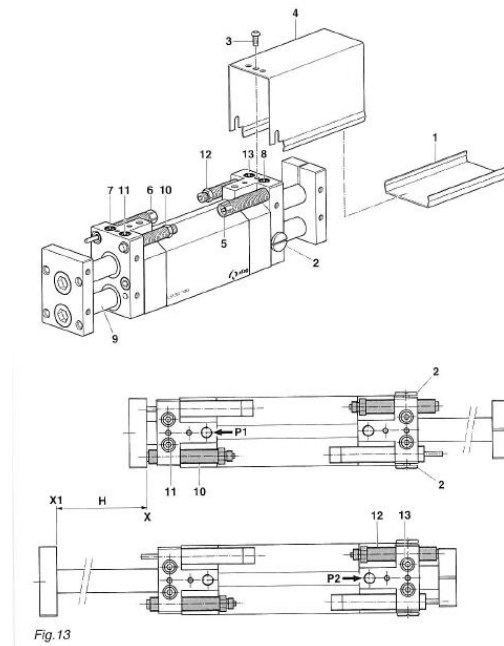

Fig. 19 Adjustment of stop screws AS 12/60
1. Pull out the protective unit (Fig. 19, 1).
2. Loosen screws (Fig. 19, 2) and remove screw (Fig.19, 3).
3. Pull the hand guard (Fig. 19, 4) upwards.
4. Loosen the locking screw (Fig. 19, 7, 8) and unscrew the shock absorber (Fig. 19, 5, 6) approx. 5 turns anticlockwise.
- The slide (Fig. 19, 9) moves onto the stop screw (Fig. 19, 10).
6. Loosen the locking screw (Fig. 19, 11).
7. Determine the rear position (X) of the stroke (H) by adjusting the stop screw (Fig. 19, 10).
8. Secure position with locking screw (Fig. 19, 11) (One turn = 1 mm).
- The slide (Fig. 19, 9) is equipped with a linear guide (Fig. 19, 12).
10. Loosen the locking screw (Fig. 19, 13).
11. Determine the front position (X1) of the stroke (H) by adjusting the stop screw (Fig. 19, 12).
12. Secure position with locking screw (Fig. 19, 13).